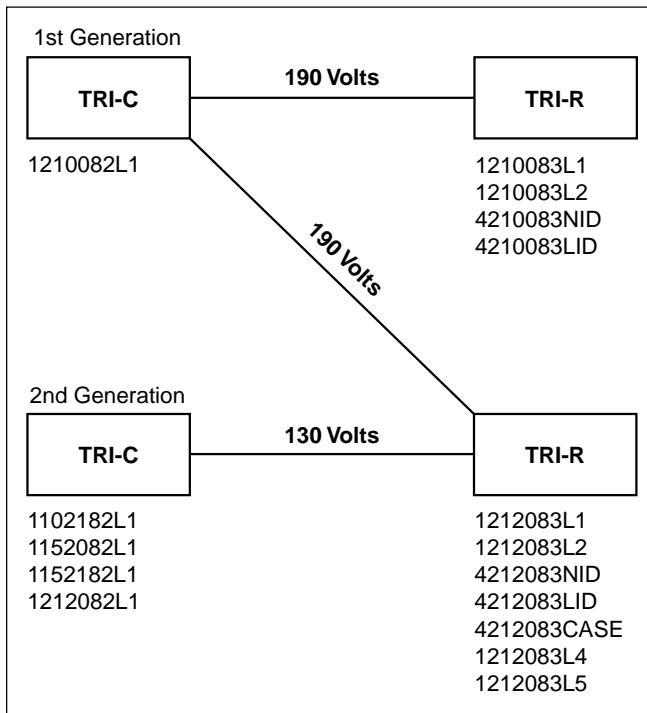

Figure 2. 1st to 2nd Generation Compatibility
- Addition of Figure 2. 1st Generation to 2nd Generation Compatibility
The Low Power T200/T400 TRI-R is span powered by -130 VDC maximum from the multiple Low Power TRI-C products, or by -190 VDC maximum from the T400 TRI-C, P/N 1210082L1, CLEI DDRPLKC1AA (see **Figure 2**). This allows the TRI-R to be located near or at the customer's premises. The TRI-R converts the span-power input to provide operation voltages for the TRI-R and provide sealing current for the customer's NT1/TA.